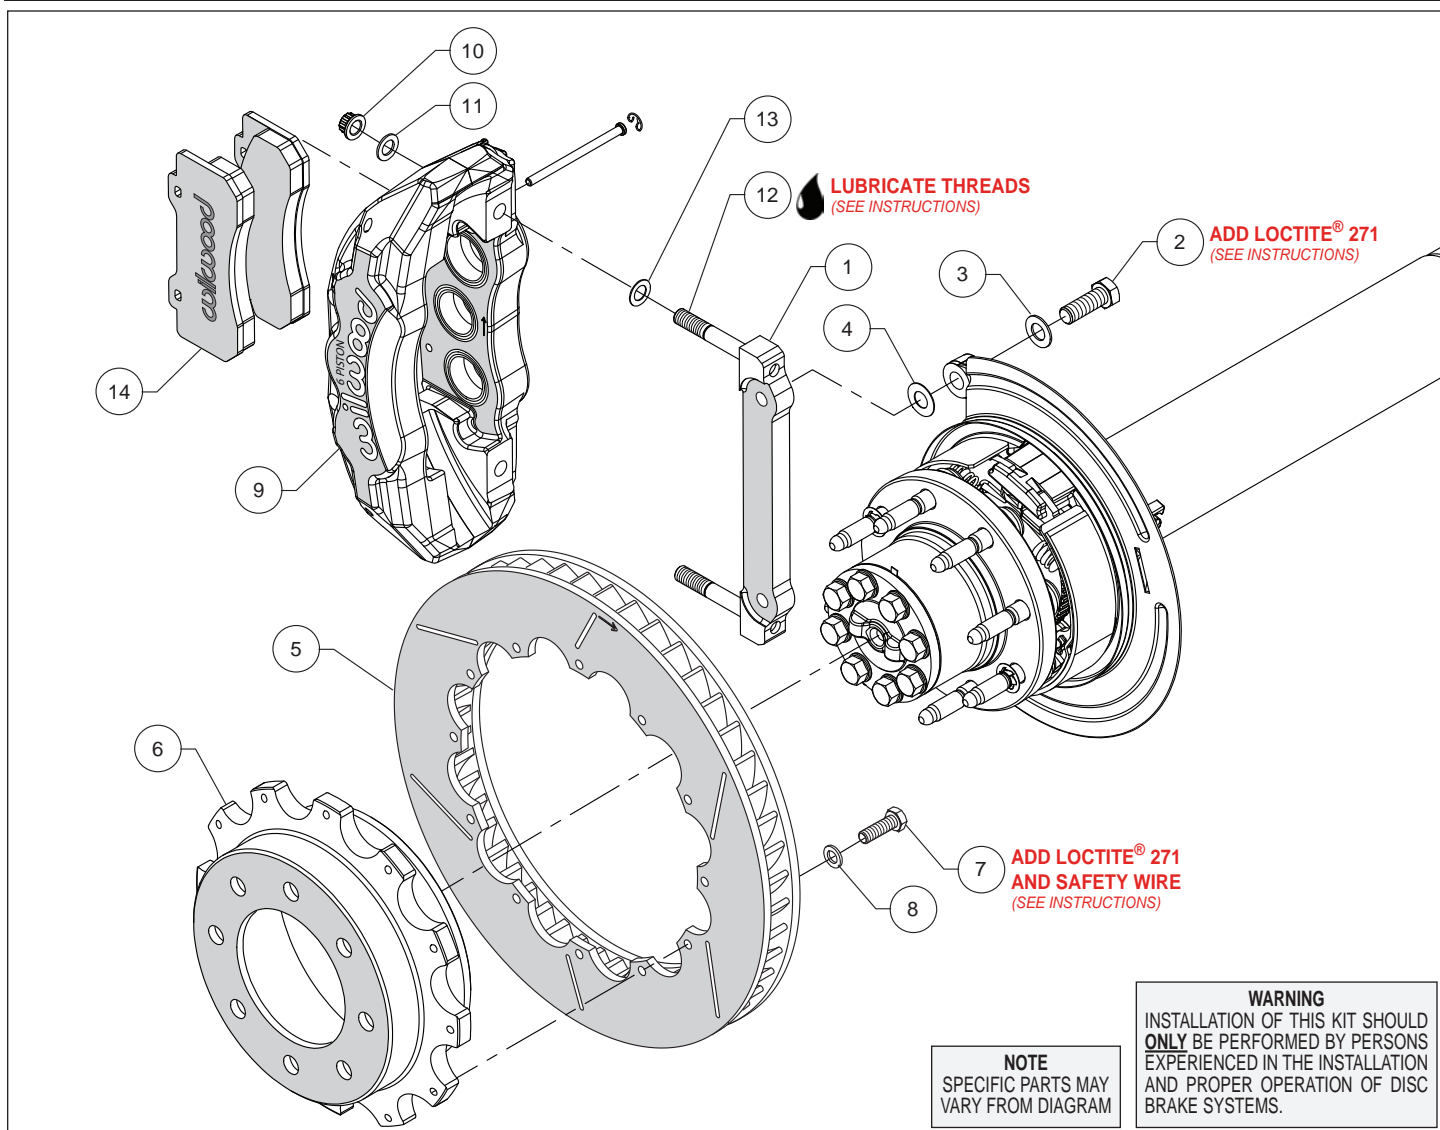
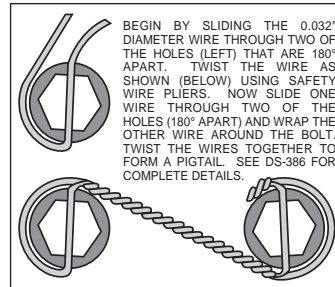

Figure 1. Typical Installation Configuration
Figure 3. Safety Wire Diagram
Assembly Instructions (numbers in parenthesis refer to the parts list and Figure 1 on the preceding pages):
- The caliper mount bracket (1) should initially be installed with clean, dry threads on the mounting bolts. Orient the bracket as shown in Figure 1 and Photo 1, and install using bolts (2) and washers (3). Initially place one .029 thick shim (4) on each bolt between the bracket and upright, Figure 1. Temporarily tighten the mounting bolts. **NOTE:** *The bracket must fit squarely against the mount bosses on the upright.* Inspect for interference from casting irregularities, machining ridges, burrs, etc. Later, after the caliper alignment has been checked, the mount bolts will be secured using red *Loctite*[®] 271.
- Orient the rotor (5) and the hat (6) as shown in Figure 1 and Photo 2. Attach rotor to hat using bolts (7) and washers (8). Using an alternating sequence, apply red *Loctite*[®] 271 to the threads, and torque to 25 ft-lbs. The bolts must be safety wired using standard 0.032 inch diameter stainless steel safety wire as shown in Figure 3. Please refer to Wilwood's data sheet DS-386 (available at www.wilwood.com/Pdf/DataSheets/ds386.pdf) for complete safety wire installation instructions.
- NOTE:** *This kit contains distinct right and left hand calipers that must be mounted in a specific direction, as described below.* Lubricate the caliper mounting studs (12) with lightweight oil. Initially place one .032" thick shim (13) on each stud as shown in Figure 1 and Photo 3. Mount the caliper (9) onto the bracket (1) using lock nuts (10) and washers (11), Figure 1. Ensure that the caliper is mounted so that the largest pistons are at the rotor exit end of the caliper, in relation to the direction of rotor rotation. Temporarily tighten the lock nuts and view the rotor through the top opening of the caliper. The rotor should be centered in the caliper, Photo 4. If not, adjust by adding or subtracting shims (4) between the bracket and the upright. Always use the same amount of shims on each of the two mounting bolts. Once the caliper alignment is correct, remove the bracket mounting bolts (2) one at a time, apply red *Loctite*[®] 271 to the threads, and torque to 77 ft-lb.